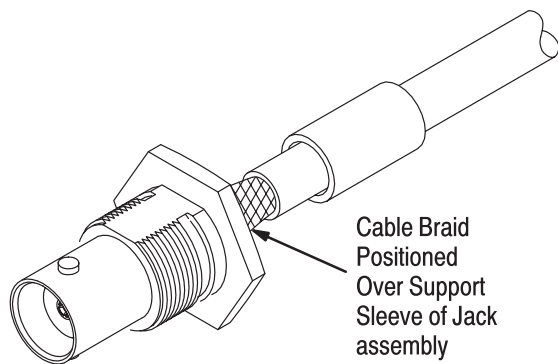

Figure 5
3. Insert contact into jack assembly until it snaps into place. Make sure that the cable braid is positioned over the support sleeve of the jack assembly. Gently pull back on the cable to ensure that the contact is held in place by the internal locking feature. See Figure 5.